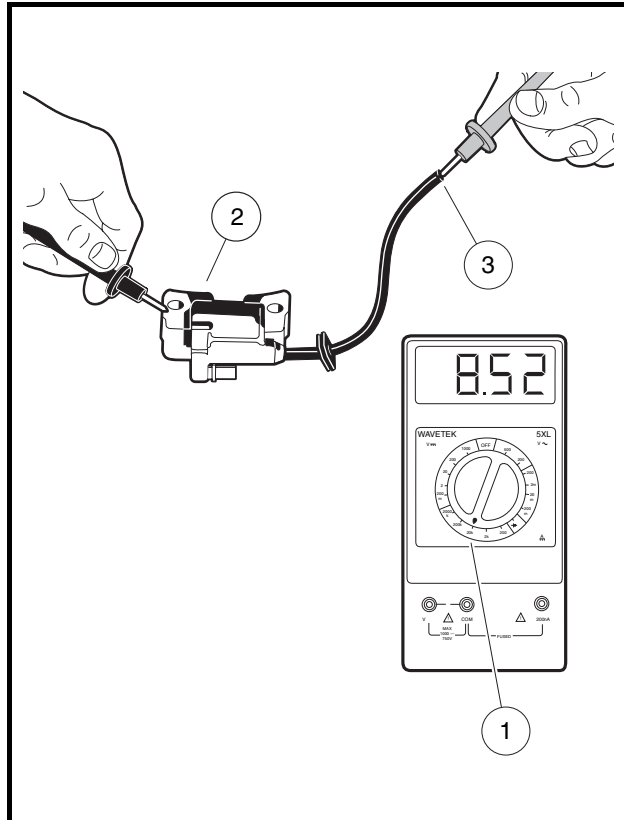

Figure 12-27 Secondary Coil Resistance – Bench Test
- 5.1. Using a multimeter set to 20k ohms, place the red (+) probe of the meter into the end of the spark plug wire (3) and place the black (-) probe on the core (2) (**Figure 12-27, Page 12-26**). If the resistance is between 6.0k - 11.0k ohms, the secondary coil is within acceptable limits. If the resistance is not between 6.0k - 11.0k ohms, the ignition coil has failed and must be replaced.